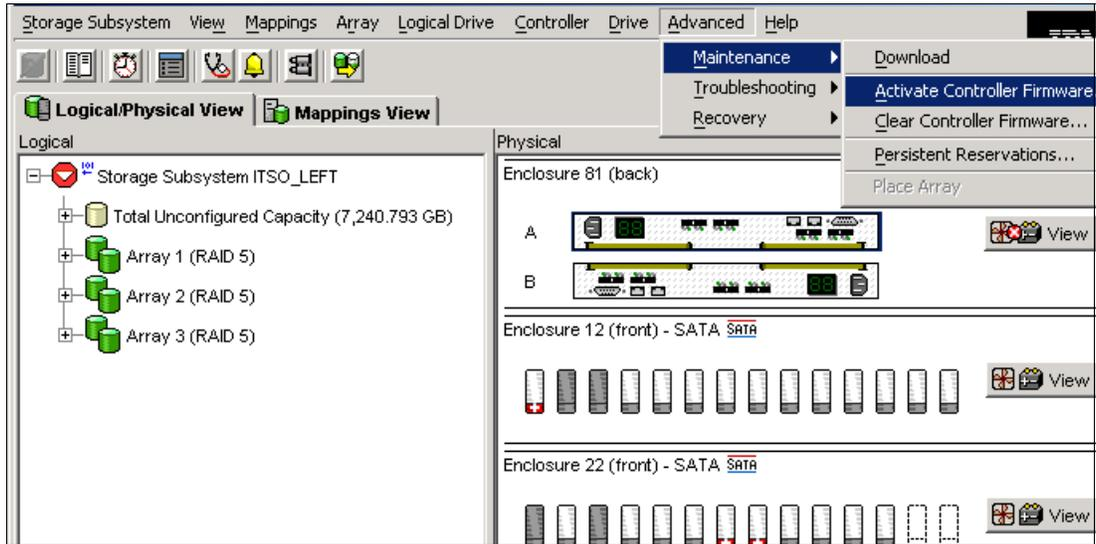

Figure 12-15 Subsystem Management window: Firmware activation
- To activate the new firmware, select **Advanced** → **Maintenance** → **Activate Controller Firmware**, as shown in Figure 12-15.